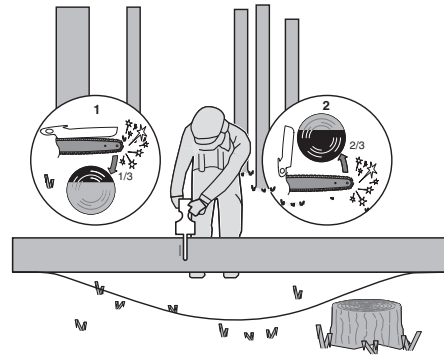

Figure 4
When the log is supported on both ends, as illustrated in Figure 4, cut 1/3 the diameter from the top (overbuck) (1). Then make the finished cut by